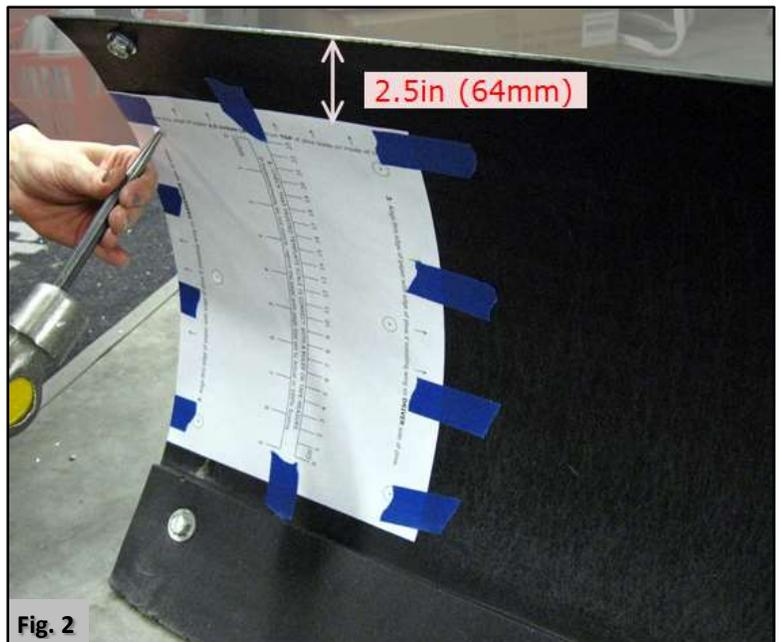

Fig. 2
3. Tape the page to the front (inside curve) of the plow, 2.5in (64mm) from the top edge of the plow blade and aligned with the side you wish to install the plow wing on. (Fig. 2)
4. Once the paper is secure and aligned, use a center punch to mark the center of the three holes along the edge that you are installing the plow wing on. (Fig. 2)